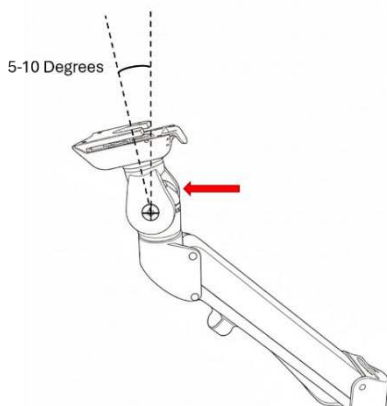

Figure 8 - Adjust the orientation of the VESA connector
2. **Adjust the orientation of the VESA connector** as shown in Figure 8. To do it, loosen the bolt (indicated by the arrow) with the hex key provided with the device, change the orientation to be between 5 and 10 degrees as shown in Figure 8 and then tighten the bolt again.